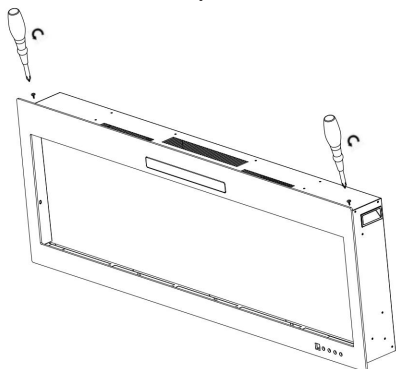

Fig. 1-1
- A.** Take off the screws on both side.(Fig. 1-1)